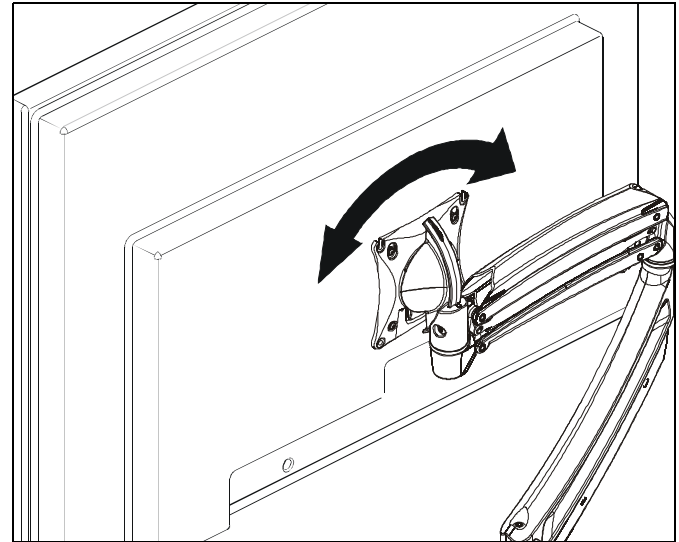

Figure 19
1. The monitor may be adjusted 90 degrees in either direction in order to provide a portrait view of the monitor. (See Figure 19)